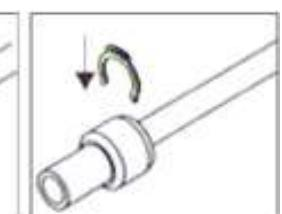

Fig. 5
2. Put on a safety clip (if any) (Fig.5).